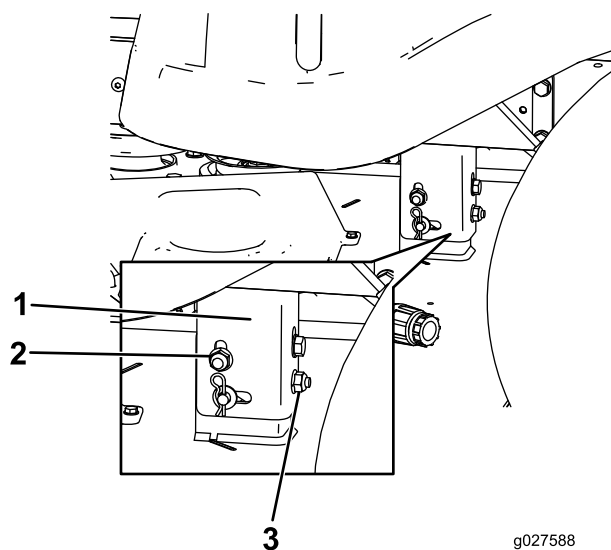

Figure 52
8. Raise or lower the left side of the mower deck by rotating the rear locking nut. (Figure 52).